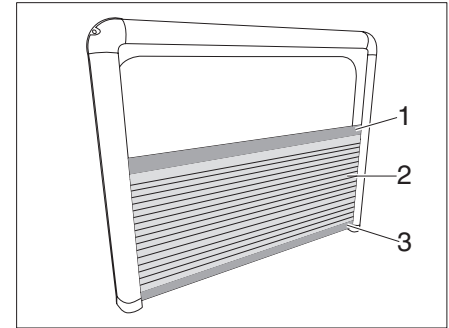

Fig. 50 Blind, pleated
- Pull up the blackout blind (Fig. 50,2) on the top strip (Fig. 50,1) and pull down the bottom strip (Fig. 50,3).
- Push down the top strip (Fig. 50,1). The opened window is protected by the insect screen.
- Push up the bottom strip (Fig. 50,3). The opened window is not protected by the insect screen.